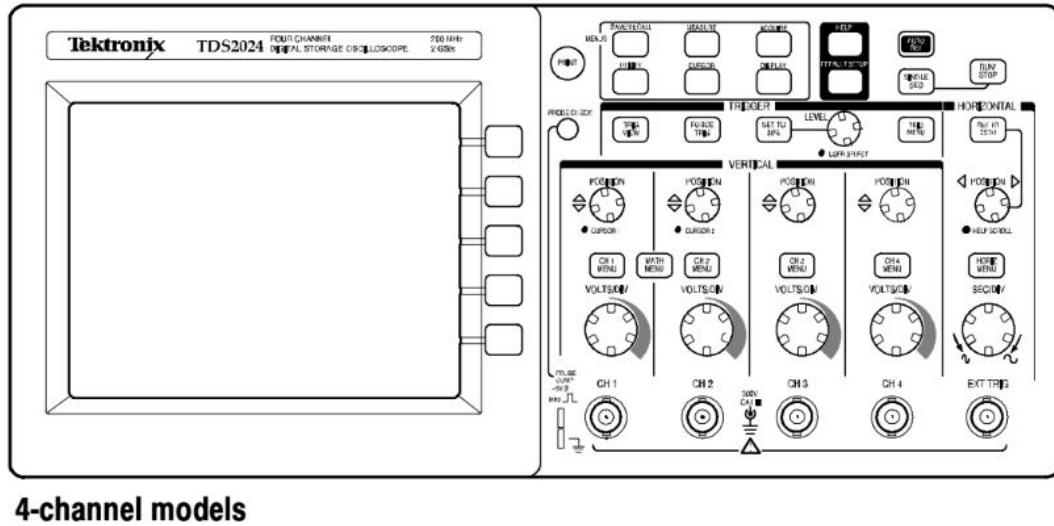

Figure 1.1: TDS2024 Front Panel
- (a) Draw or attach an image of the oscilloscope's front panel refer to Figure 1.1 *TDS2024 Front Panel*.